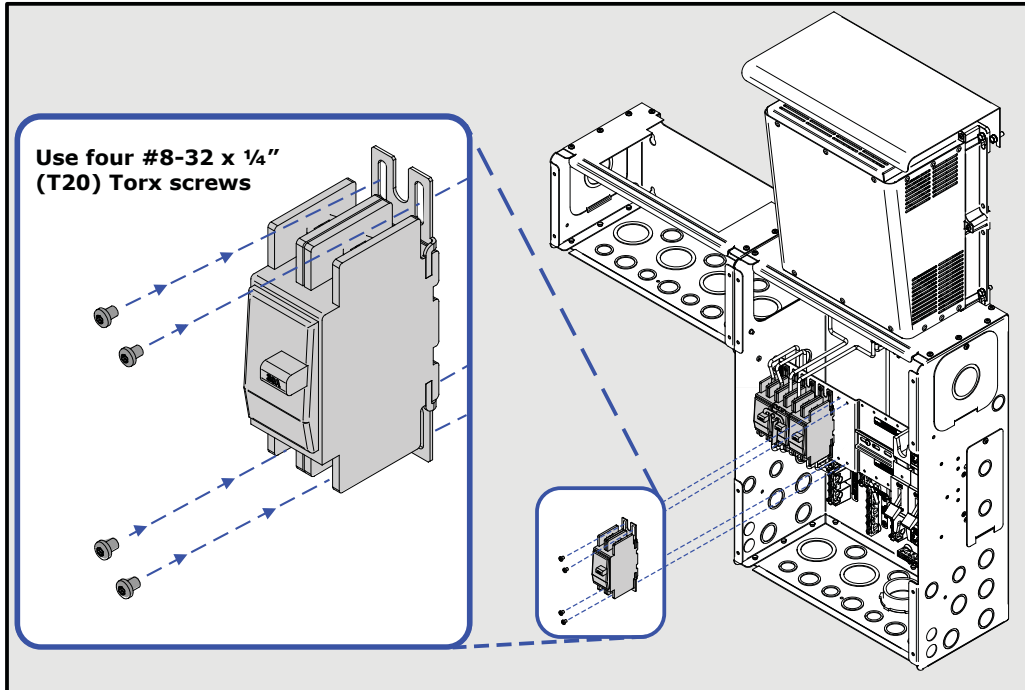
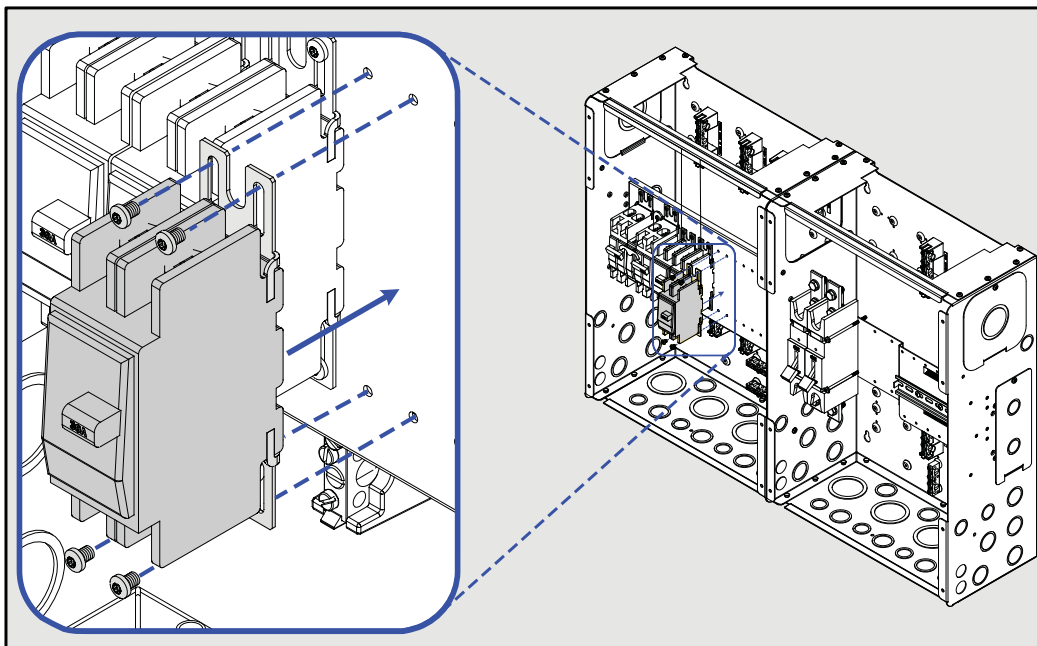

Figure 3-9, Attaching the New AC Breaker Within a MP Single Enclosure
Figure 3-10, Attaching the New AC Breaker Within a MP Dual Enclosure
1. While holding the new AC breaker against the MP's mounting plate, align the breaker's four mounting holes with the enclosure's mounting holes (see Figure 3-9). **Note:** The AC breakers are always installed in the left enclosure of a MP dual enclosure (see Figure 3-10).